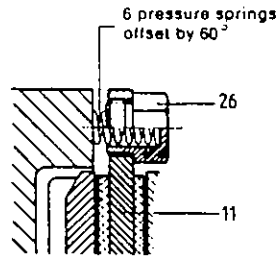

Fig. 3
6.1 Plate positioning springs (Fig. 3 and 4)